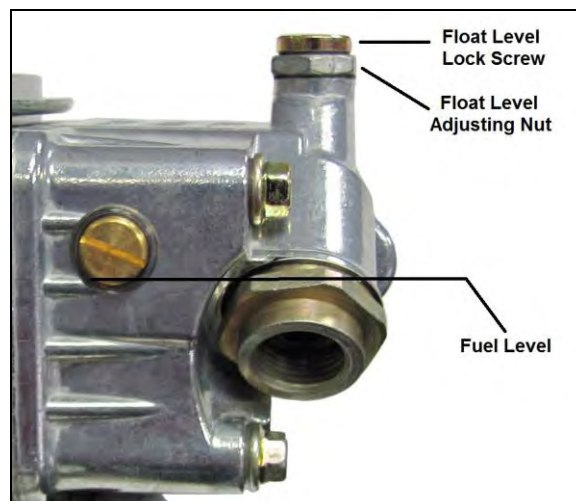

Figure 13
2. Observe the sight plug for the fuel level. If none is seen, the level is too low. If it is higher than the bottom of the sight window, it is too high. **NOTE:** A properly set float level will have the fuel level located at the bottom edge of the sight window, as shown by the line in Figure 13.